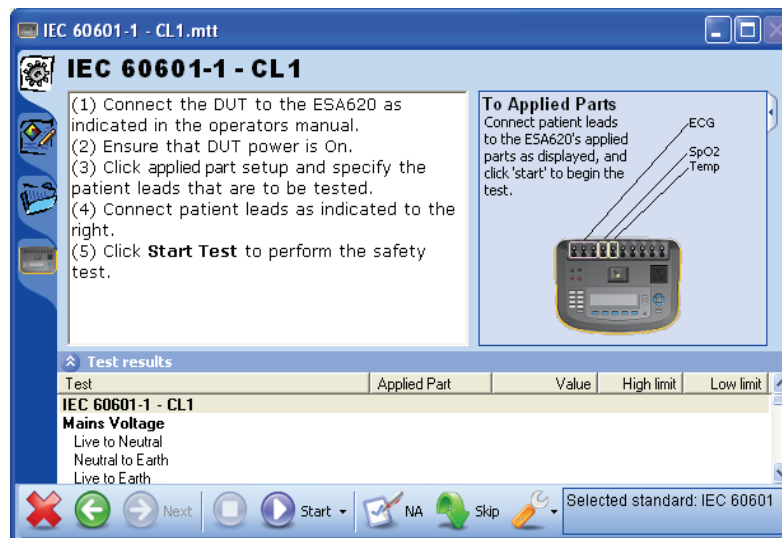

Figure 3-9. Connecting Instructions for Applied Parts
1. Click the **Procedure** tab on the left-hand side of the test guide to display the connection procedure. An applied parts connection guide is shown in Figure 3-9.